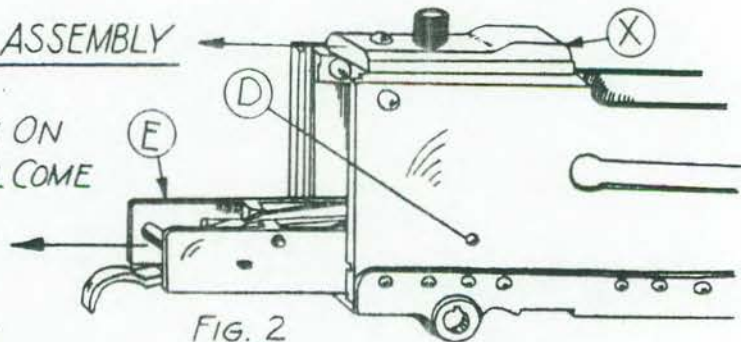

FIG. 2
- 3 PULL STRAIGHT BACK ON LATCH (X), FIG. 2, AND IT WILL COME OUT OF SLOTS.
- 4 WITH A SMALL PUNCH, PRESS IN ON PIN IN HOLE (D), FIG. 2, AND PULL STRAIGHT BACK ON LOCK FRAME (E) AS SHOWN BY ARROW. BARREL (F), FIG. 3, AND BARREL EXTENSION (G) WILL COME OUT WITH LOCK FRAME (E).